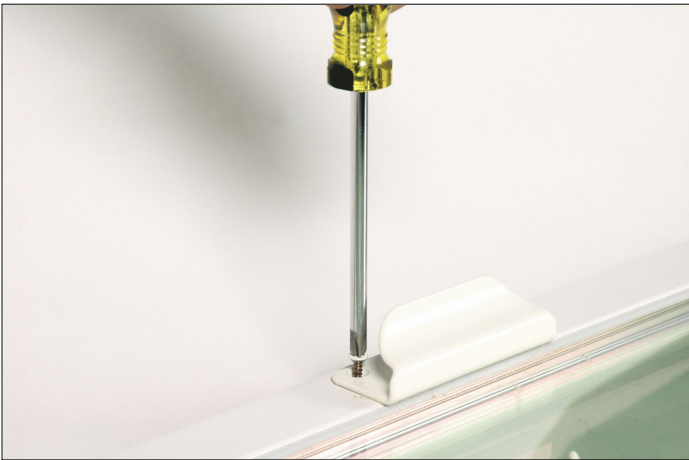

Figure 2: Install end sash lift.
2. Using the existing holes as a guide, install new sash lift and reuse screws if possible. Do not over tighten screws. See figure 2.